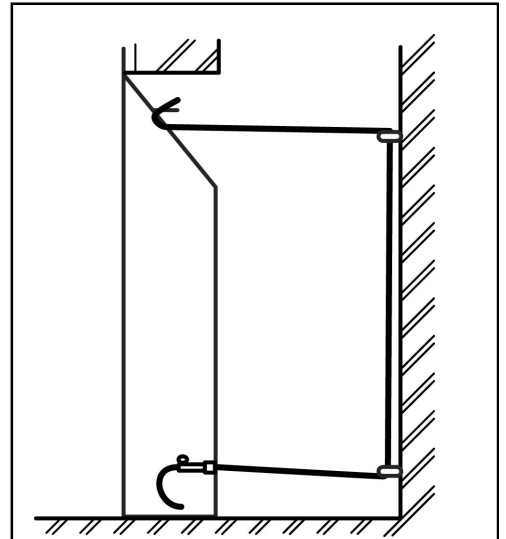

Figure 16. Cable route
6. Thread the cables through the eyescrews. Return the cables through the holes near the bottom of the hotbox side panels (See figure 16).